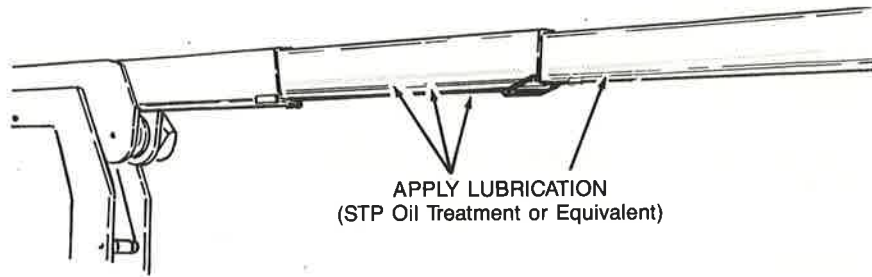

Figure 57. Boom Lubrication
18. BOOM SLIDES - Weekly or every 50 hours, clean and lubricate boom sliding contact areas indicated in Figure 57. Use STP Oil Treatment or equivalent. Use small amount only for best results.